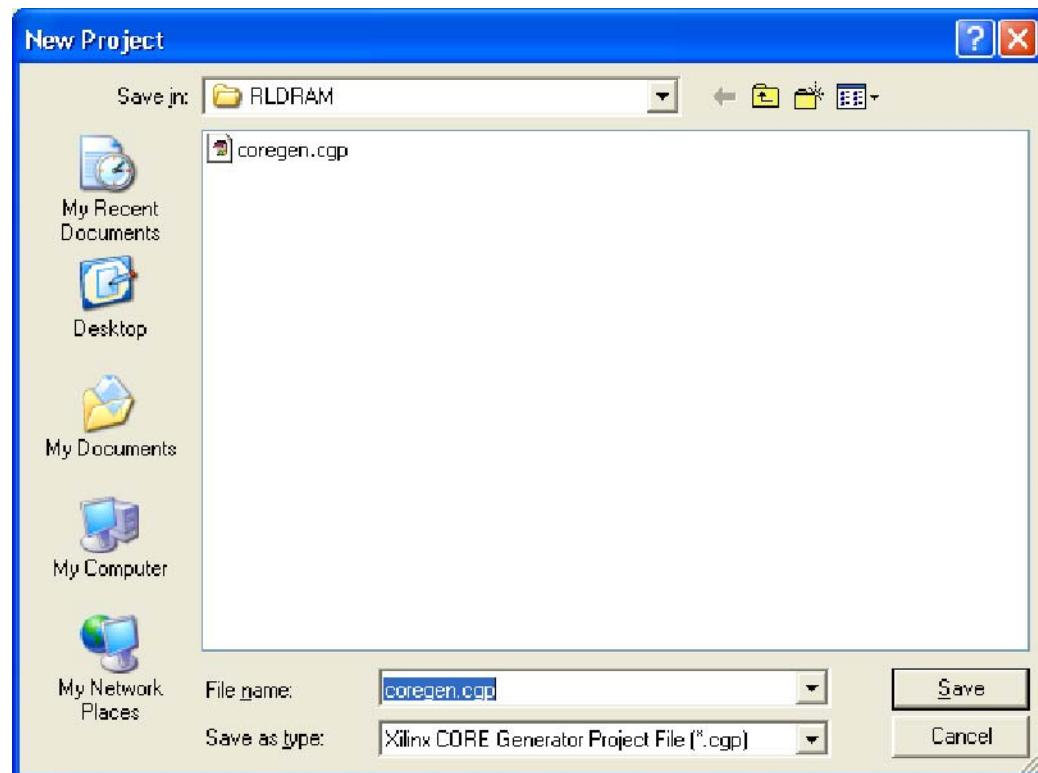

Figure 3-3: New Project Menu
3. Enter a project name and location. Click **Save** (Figure 3-3).